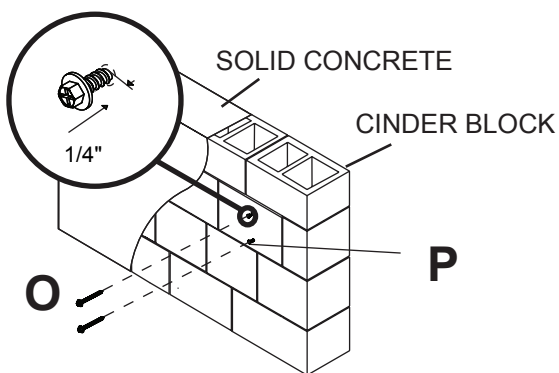

Figure 4.3
- 4** Place wall plate (B) on wall as a template. Level, and mark the center of the three mounting holes. Drill three 5/16" (8 mm) dia. holes to a minimum depth of 2.5" (64 mm). Insert anchors (P) in holes flush with wall as shown. Fasten two #14 x 2.5" wood screws (O) leaving 1/4" of thread exposed as shown in Figure 4.3. Hook wall plate (B) onto exposed #14 x 2.5" wood screws (O). Secure using one #14 x 2.5" wood screws (O) as shown in figure 4.4. *Skip to Step 5.*